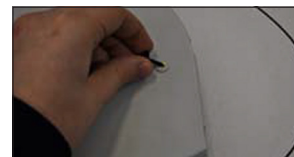

Fig. 41
3. A message "Install Thumbscrew into Cartridge" will appear. If a cartridge is being replaced, ensure that the thumbscrew is installed into cartridge if it is to be stored. (Fig. 41)